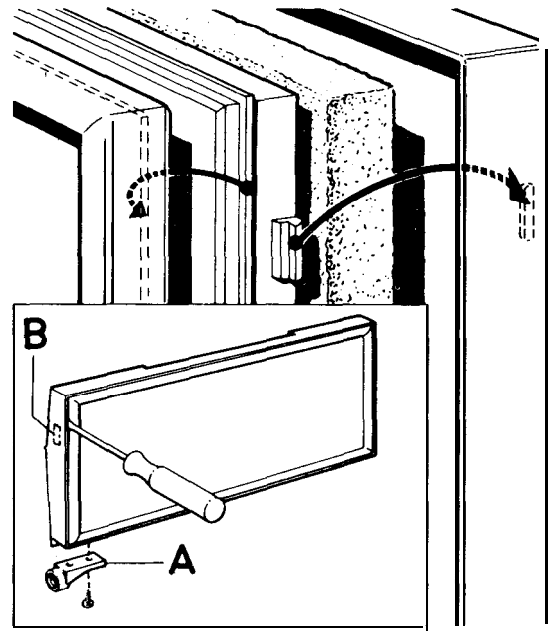

Fig.13
2. Unscrew the hinge plates (A fig. 13).
CAUTION: It is of great importance that the screw driver is applied in front of one of the plastic tongues (B fig. 13) which hold the inner panel and the shutter front together.